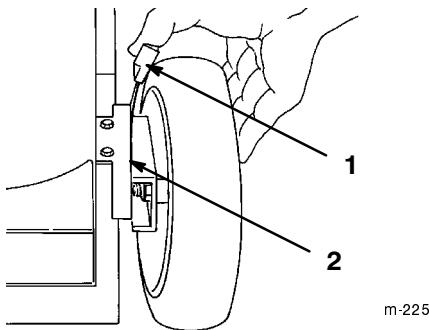

Figure 14
3. Squeeze the cutting height adjuster lever toward the wheel (Fig. 14) and move it to the desired setting.